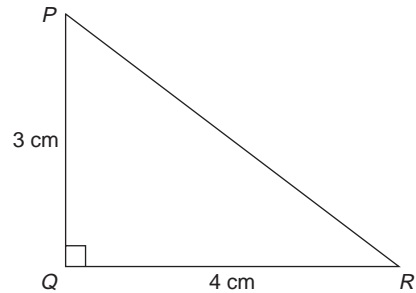

Figure M8
59. For the right-angled triangle PQR shown in Fig. M8, angle R is equal to: